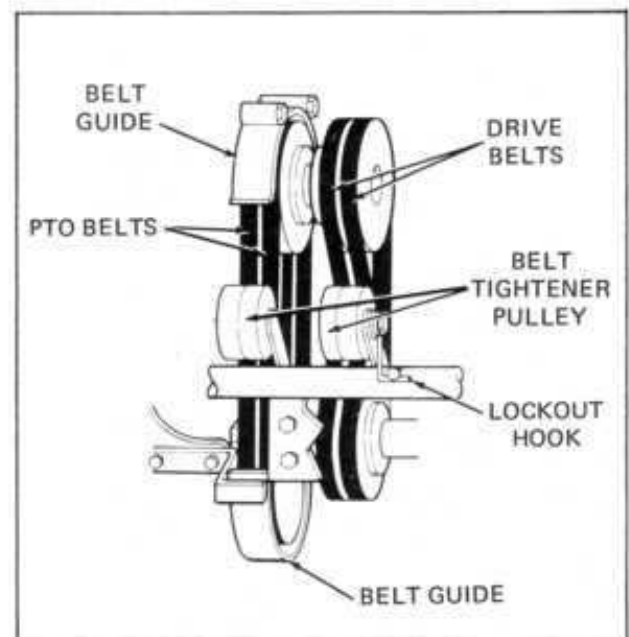

Figure 14
3. Pull the idler pulley away from the belt, and temporarily secure in this position. See Figure 14.
2. Pull the drive belt idler away from the belts and secure in this position. See Figure 14.